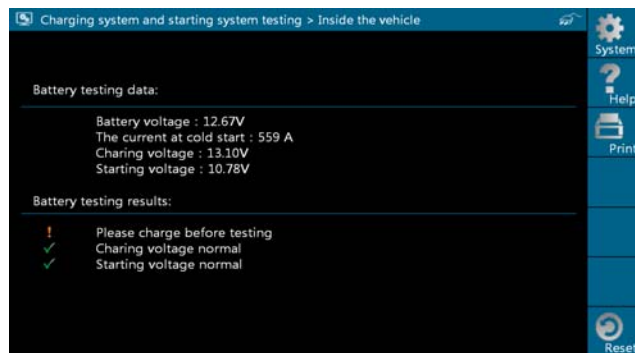

Fig. 3-12
4. Tested data will be shown on the screen, similar to Fig. 3-12.